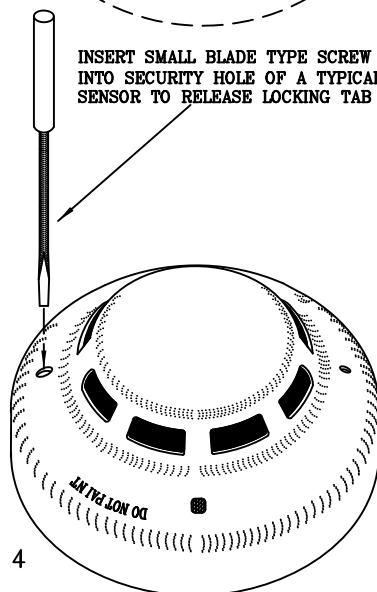

Fig. 4
- 2) To remove the sensor from it's base, take a small diameter screw driver and insert it into the large hole on the outer rim of the sensor (see Fig. 4). Use caution when pushing the base security locking tab down. Only use enough force to remove the sensor. While pushing the tab down rotate the sensor counter clockwise enough to clear the base security locking tab. Once this is accomplished the sensor can be completely removed.